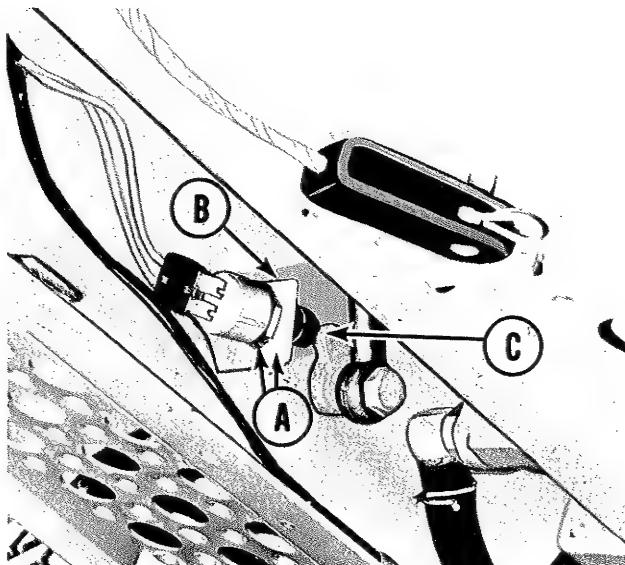

Figure 15. Neutral start safety switch as seen from beneath tractor.
3. See figure 15. The Neutral Safety Switch can be moved back and forth by turning the two nuts (A) counter-clockwise or clockwise and up and down by sliding it in the mounting bracket (B).
4. Place a film of grease on the cam (C) where it contacts the switch.
5. Adjust the safety switch so it is centered on the cam surface (C) and the end of the switch moves about 1/8 inch when the control lever is moved.
6. Tighten the two nuts (A) against the mounting bracket.